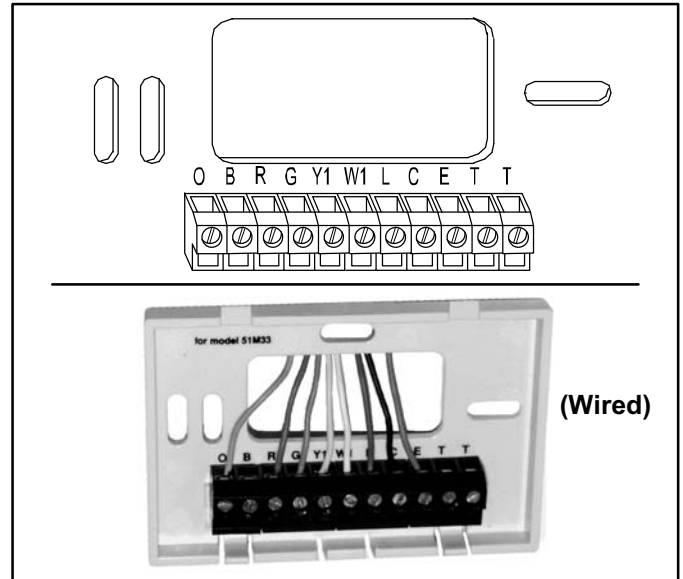

Figure 2. L3021H Terminal Strip
- L3021H - See table 2 and figure 2.